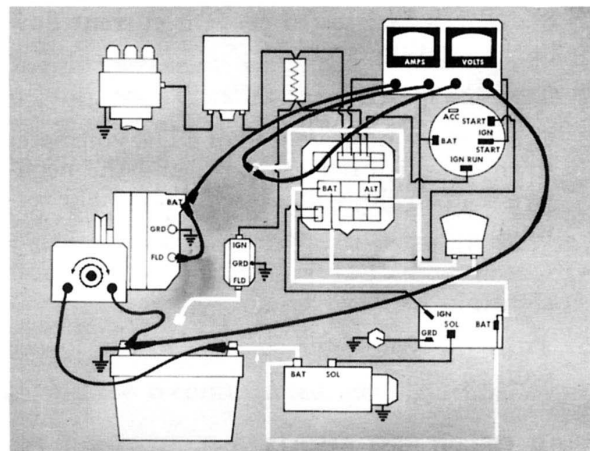

Fig. 4—Alternator current output test.
6. Check your test connections with those illustrated in Fig. 4.